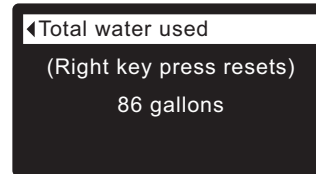

FIG. 123
6. The **Total water used** screen (See Figure 123) shows the volume of water used since it was last reset (it works like the trip odometer in a car). To reset the value to 0, press the RIGHT (▶) button while this screen is displayed.